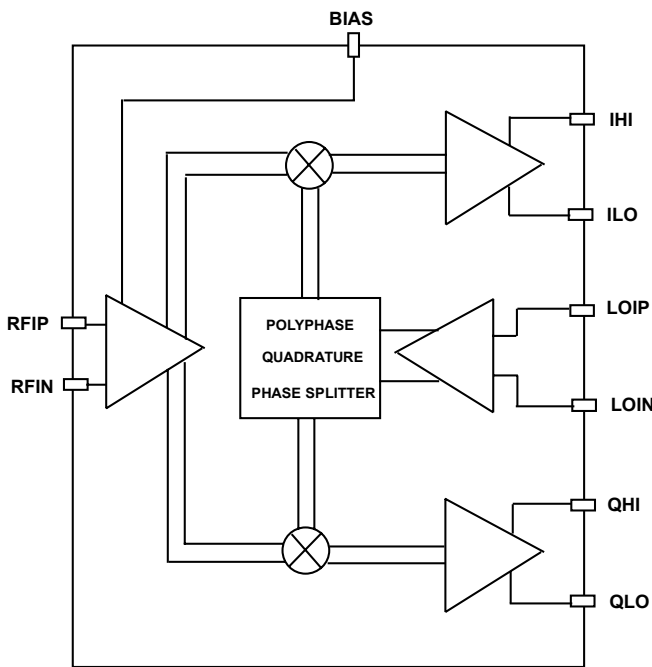

Figure 15. ADL5382 Block Diagram
The ADL5382 can be divided into five sections: the local oscillator (LO) interface, the RF voltage-to-current (V-to-I) converter, the mixers, the differential Emitter follower outputs, and the bias circuit. A detailed block diagram of the device is shown in Figure 15.